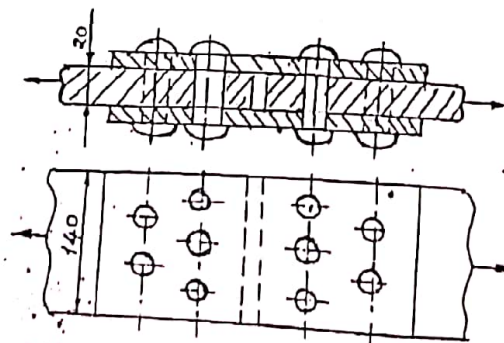

Fig. Q.3.
3. A double riveted, double covered butt joint is as shown in fig. Q.3. (dimensions in mm). 10 rivets each 25mm in diameter are used in the arrangement given. If the allowable stresses for the joint are 70 MPa, 90 MPa and 150 MPa in shearing, tensile and crushing failures respectively, determine:-